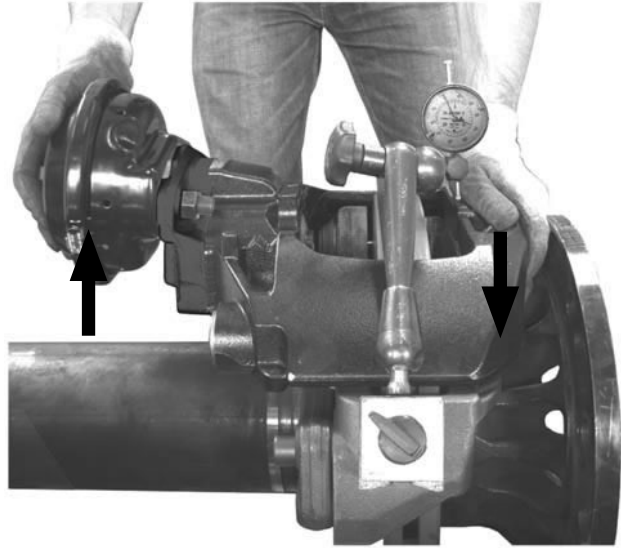

Figure 19: Tilting brake chamber away from axle
8. Apply force to **tilt** the brake caliper as far as possible in the opposite direction (Figure 19).